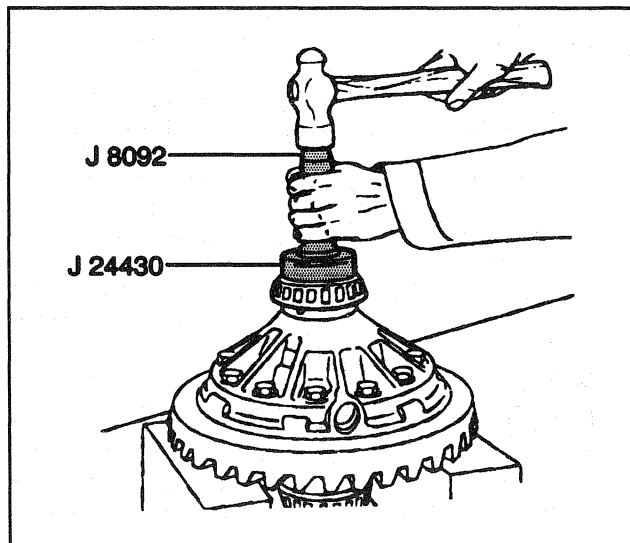

Figure 15—Installing Differential Bearings
7. Differential side bearings using J 24430 and J 8092 (Figure 15).